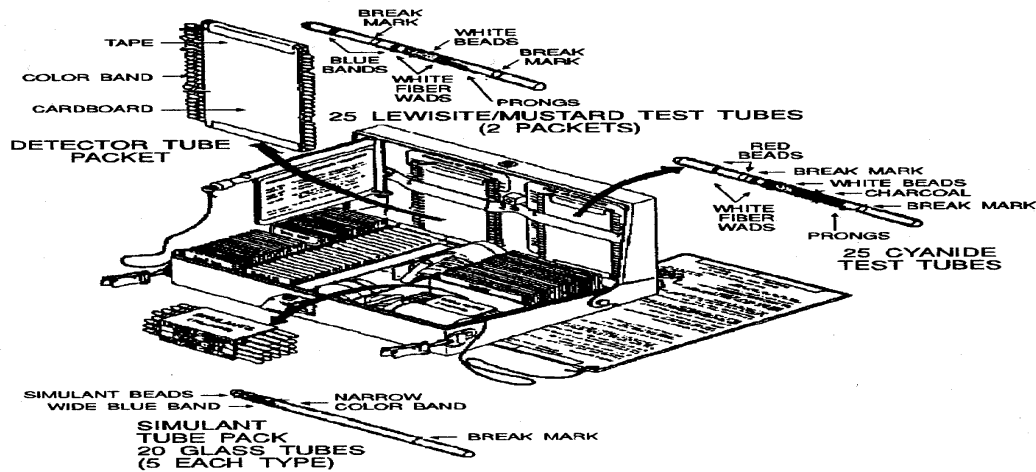

Figure 5-12 M272 Water Testing Kit.
d. The M272 (Figure 5-12) kit will detect and identify dangerous levels of common chemical warfare (CW) agents in water sources. Non-chemical corps personnel who are required to collect and check any water source such as wells, lakes, rivers, and city water systems can use it. The M272 is a lightweight kit that will detect and identify harmful amounts of CW agents when those are present in raw or treated water. See TM 3-6665-319-10 for further information.